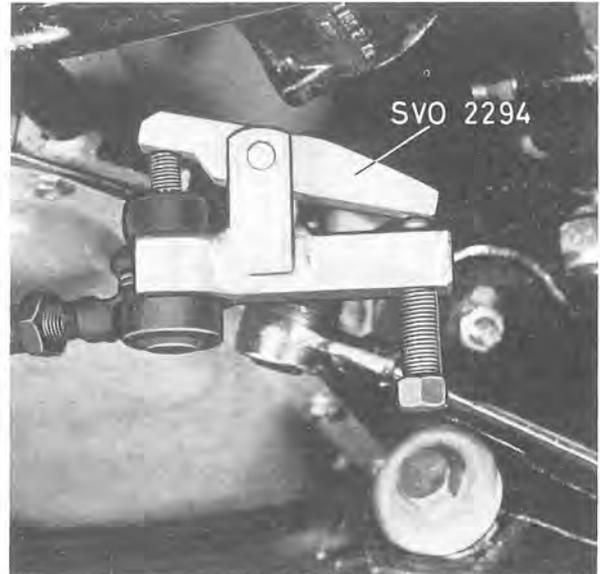

Fig. 6-19. Removing the steering rod
3. Disconnect the steering rods from the steering arms with tool SVO 2294 according to Fig. 6-19.
3. Remove the steering rod from the steering arm with tool SVO 2294, see Fig. 6-19.
Disconnect the steering rod from the steering arm with tool SVO 2294, see Fig. 6-19, and remove the brake lines from the stabilizer bolt.
4. Disconnect the steering rod from the steering arm with tool SVO 2294, see Fig. 6-19. Loosen the clamp for the brake hoses. Remove the bolt for the stabilizer.